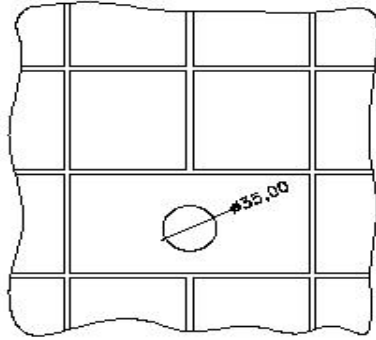

Fig.2
1. Hole diameter of 35MM in the wall where the controller is installed (Fig.2).